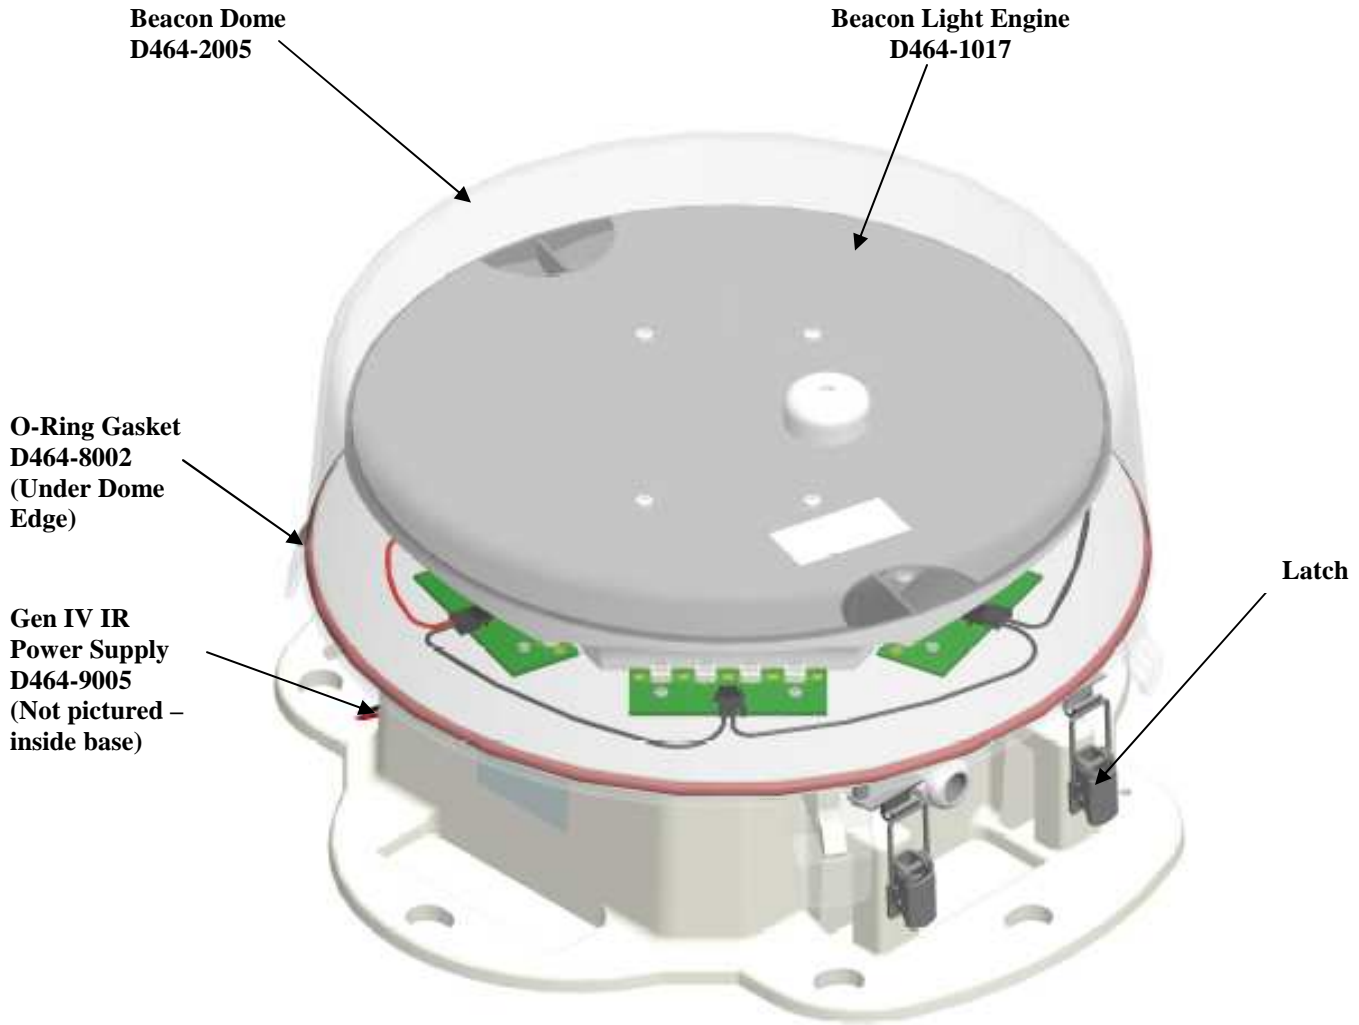

Figure 4 Beacon – External View
- Figure 4: Beacon – External View
The block diagram in Figure 4 shows the major components of a typical Beacon installation. The parts of the system are the LED Beacon and Controller. The LED Beacon is made up of one LED module, which lights when current passes through it. The LED Beacon contains its own internal power supply. The Beacon is designed for use with an external controller. This external controller provides the properly timed flashing signal, fault monitoring and alarm interfaces.